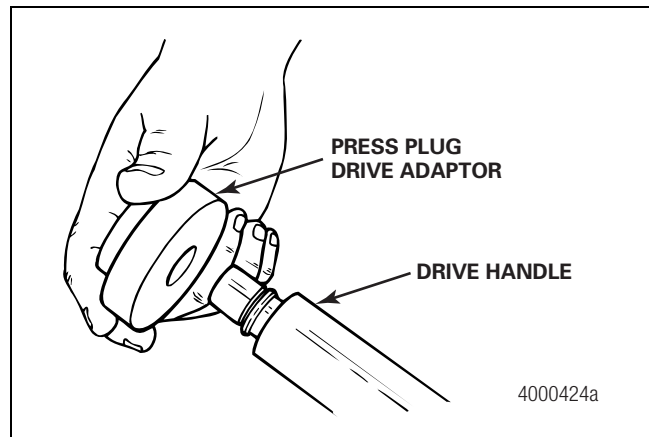

Figure 12
11. Install the press plug drive adaptor onto the drive handle. Figure 12.